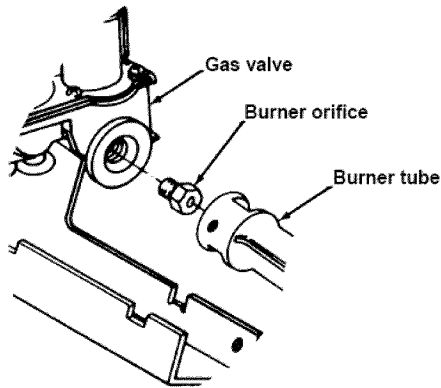

Figure 1
- Remove the burner orifice from the valve and replace it with the proper orifice furnished in this kit. Orifice number is stamped on one edge of the hex head of orifice. Securely tighten. See *Figure 1*.